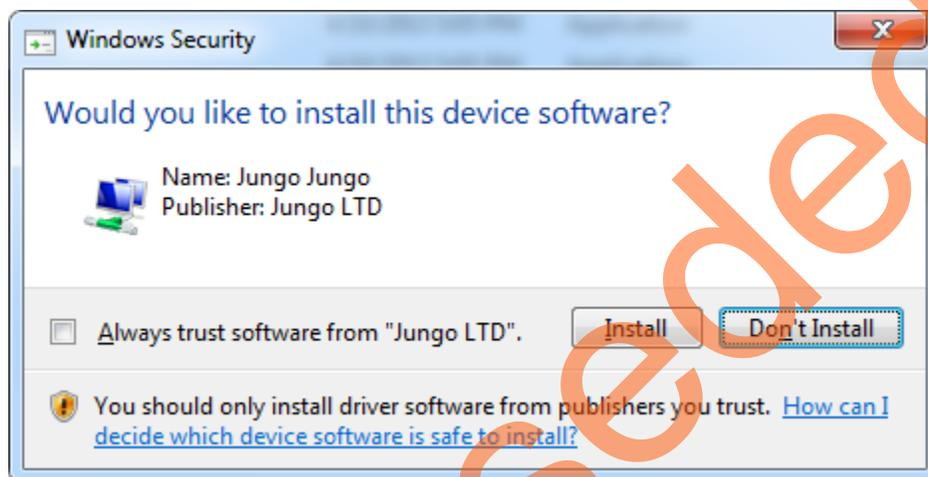

Figure 55 • Jungo Driver Installation
3. Click **Install** if the window is displayed as shown in Figure 55.